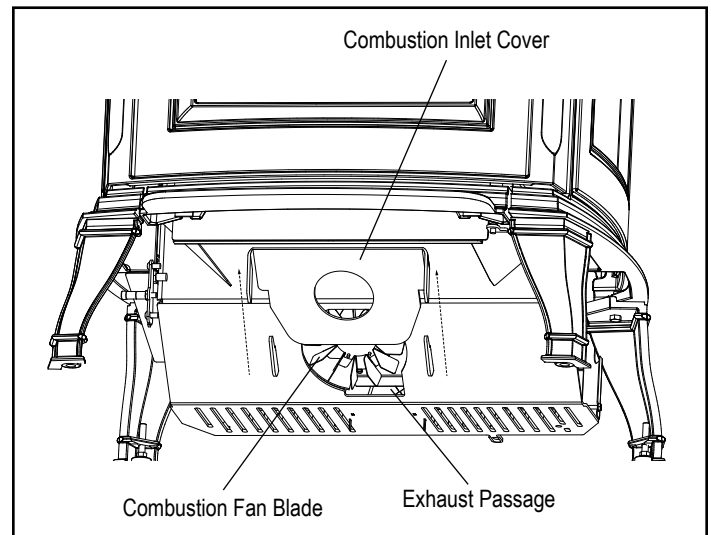

Figure 2.5
The burnpot grate can be removed if needed. Figure 2.5.
The combustion inlet cover is located behind the ash pan that must be removed to properly clean the combustion fan blade. Figure 2.5.
- Remove combustion inlet cover by pulling up on cover. This allows access to the combustion fan blade and exhaust path. Figure 2.5.
- Clean exhaust passage. Figure 2.5.